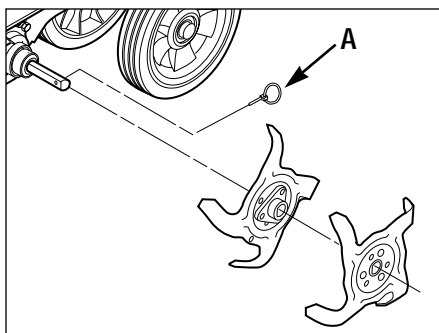

Figure 12: Standard wide tine pattern and ring lock pin location.
2. Flip open the ring (A, Figure 12) on the left side ring lock pin and remove the ring lock pin.
**IMPORTANT:** The ring lock pin (A, Figure 12) is under spring tension – use care when removing or replacing the ring lock pin.
2. Remove the ring lock pin (A, Figure 12) from both sides of the unit. Remove both outer tine sections. Be sure to mark each section as a left or right side tine and whether it is an inner or outer section.
2. Remove the ring lock pin (A, Figure 12) from both sides of the unit. Remove the old tine sections and replace them with new tine sections. Refer to Figure 12 and the tine position shown in the *Parts List* for tine positioning details. Insert the ring lock pins through the rounded side of the tine shafts and snap the ring over the shaft (see *DETAIL - Ring Lock Pin*, Figure 10, in Section 4).